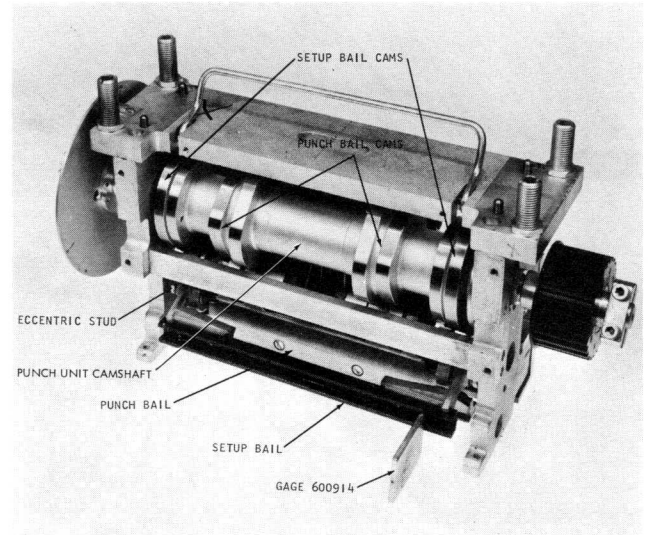

Figure 4-11. Drive Unit
1. The drive unit (Figure 4-11).
#### Interposer Setup Bail Adjustment (Figure 4-11)
5. Turn punch unit camshaft until setup bail rests on top of the gage (P/N 600914) (Figure 4-11). Make a note of the index setting.
7. The setup bail should rest on top of gage in the same manner as in step 5. Check the index setting to insure it has not changed since step 5. Use the eccentric stud at the left end of the bail to satisfy this condition (Figure 4-11).